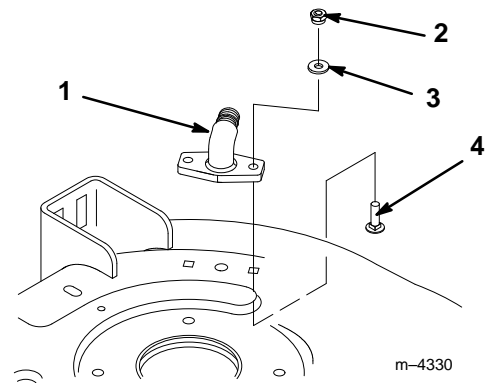

Figure 1
1. Remove the two bolts, flat washers and nuts holding the washout port to the deck and remove the washout port (Fig. 1). Save the washout port and the bolts, nuts and washers for reinstallation when removing the counterweight.